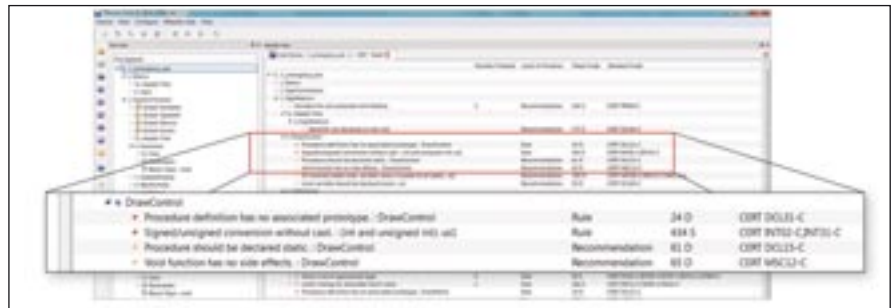

Figure 3. LDRA TBvision showing improper data type sign usage resulting in buffer overflow vulnerability.
- **Static analysis** – automating the process of static analysis and enforcement of coding standards such as CWE or CERT C Secure Coding guidelines ensures that a higher percentage of errors is identified in less time. Static software analysis tools assess the code under analysis without actually executing it (Figure 3).